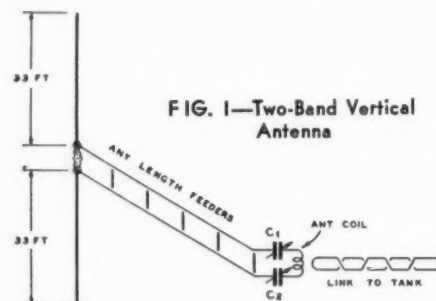

FIG. 1—Two-Band Vertical Antenna
• Vertical antennas are very useful for long distance transmission in all directions. The antenna shown in Fig. 1 is a center-fed half wave Zepp for 40 meter operation and consists of two end-fed half waves excited in